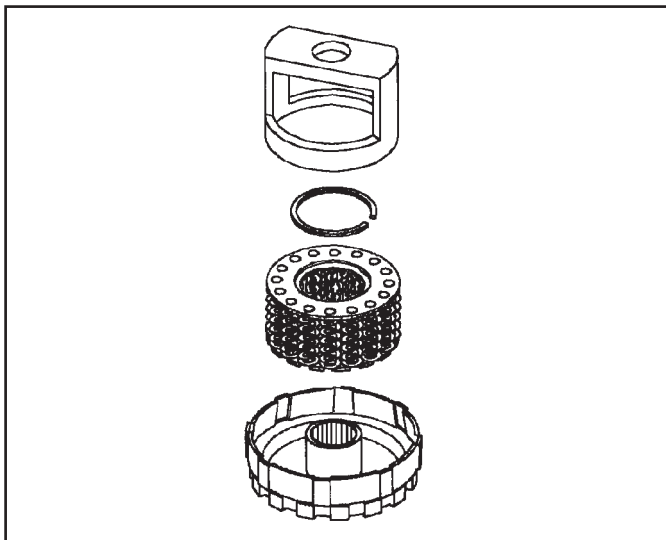

Figure 105
2. Install Saturn's spring return compression fixture (SA9146T) or equivalent and compress the spring. Use snap ring pliers to remove the retaining snap ring. Slowly release the spring tension and remove the fixture and spring assembly (See Figure 105).